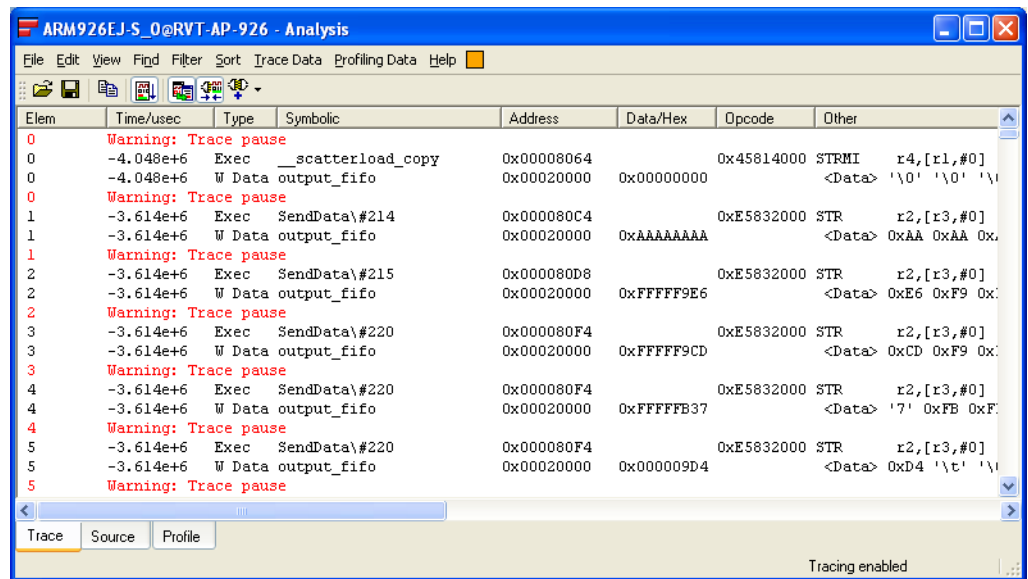

Figure 10-59 Captured trace in Analysis window
7. Select **Trace Data** → **Function Boundaries** from the Analysis window menu to hide the function boundaries. Figure 10-59 on page 10-55 shows an example.
8. After a short time, click **Stop** on the Debug toolbar to stop execution. The captured trace is displayed in the **Trace** tab of the Analysis window. Compare the captured trace with that shown in Figure 10-59 on page 10-55.